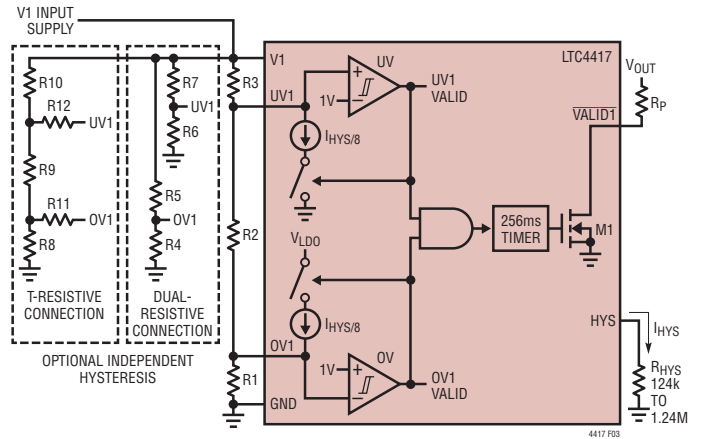

Figure 3. LTC4417 External Hysteresis
Hysteresis for the OV and UV comparators are set via the HYS pin. Two options are available. Connecting a resistor,  $R_{HYS}$ , between HYS and GND, as shown in Figure 3, sets the hysteresis current  $I_{OV\_UV(HYS)}$  that is sunk into UV1, UV2 and UV3 and sourced out of OV1, OV2 and OV3. The value of  $R_{HYS}$  is calculated with Equation (1). Choose  $R_{HYS}$  to limit the hysteresis current to between 50nA and 500nA.
Independent OV and UV hysteresis values are available by separating the single string resistive dividers R1, R2 and R3, shown in Figure 3, into two resistive strings, R4-R5 and R6-R7. In such a configuration, the top resistor defines the amount of hysteresis and the bottom resistor defines the threshold. Use Equations (2) and (3) to calculate the values.
When large independent hysteresis voltages are required, a resistive T structure can be used to define hysteresis values, also shown in Figure 3. After the desired OV and UV thresholds are set with resistors R8 through R10, R11 and R12 are calculated using:
Extending the filter time delay will result in a slower response to fast UV and OV faults. Extending the UV pin fault filter time delay will also add delay to the OV pin. If this is not desirable, separate the single resistive string into two resistive strings, as shown in Figure 3.